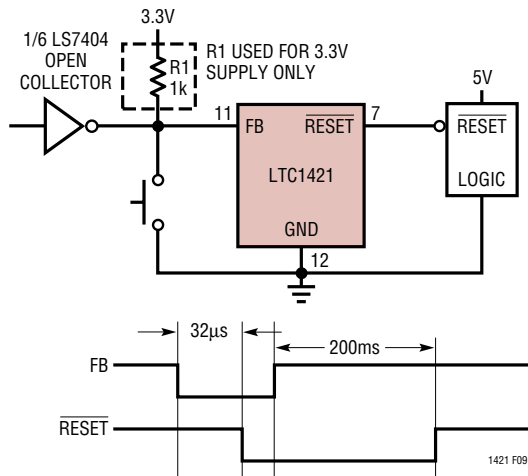

Figure 9. Generating a Soft Reset
A soft reset that doesn't cycle the supply voltage can be generated externally using Pin 11 (FB) as shown in Figure 9. For a 5V supply the FB pin is left floating to set the internal supply monitor trip voltage to 4.65V. However, if the FB pin is pulled to ground for more than 32 $\mu$ s via a push button or open-collector logic gate, the internal trip point will go to 5.88V and the  $\overline{\text{RESET}}$  pin will pull low.  $\overline{\text{RESET}}$  will remain low for 200ms after the FB pin is released. The  $\overline{\text{RESET}}$  signal will also be pulled low when the voltage at the  $V_{\text{OUTLO}}$  pin dips below 4.65V for more than 32 $\mu$ s. When using a 3.3V supply, a 1k resistor must be connected from the FB pin to  $V_{\text{CCLO}}$  to set the internal trip point to 2.90V.